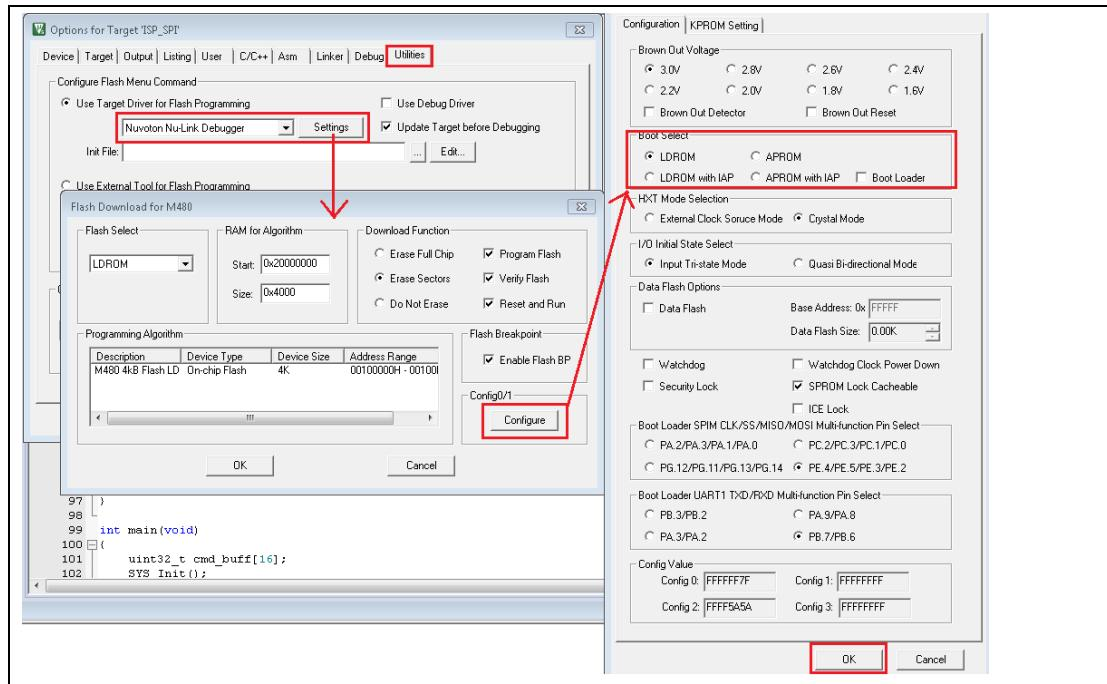

Figure 5.2-50 Boot from LDROM Setting in Keil ISP Firmware Project
- (6) Invoke Project → Options for Target → Utilities, select “**Nuvoton Nu-Link Debugger**” when the **Use Target Driver for Flash Programming** option is enabled, and select the **Update Target before Debugging** option, as shown in Figure 5.2-50
- (7) Click the **Settings** button to open the Flash Download form, as shown in Figure 5.2-50
- (8) Click the **Configure** button to open the user configuration form and set **Boot Select** option to LDROM and click **OK** button as shown in Figure 5.2-50